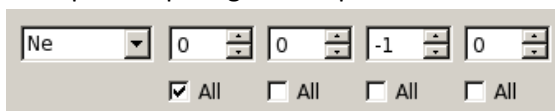

Figure 6 Example of how to input variables for a graph
4. The 'value at point' button and 'divide by' are debatably a little redundant however they can be a quick way to find the value of the data at a specific point. Note that the 'all' boxes are ignored so figure 6 would give the same output as typing `ne[0,0,-1,0]` into the command line.